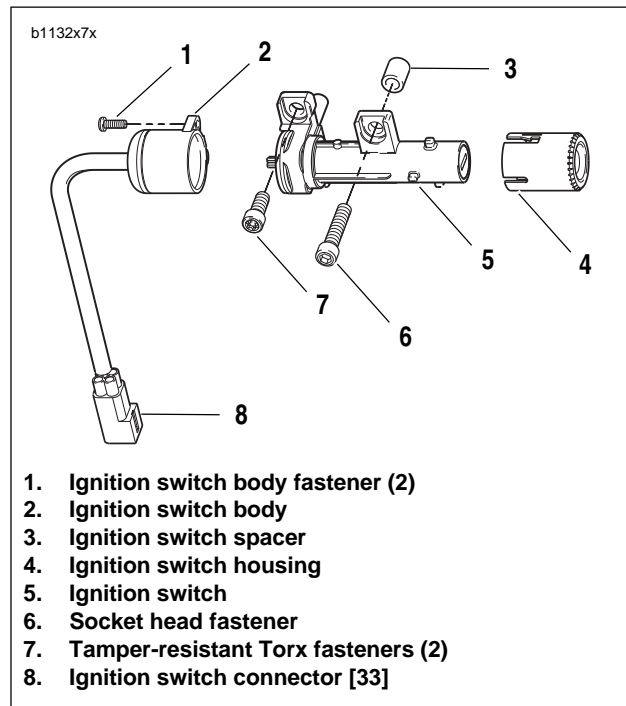

Figure 7-5. Ignition Switch Assembly
1. See Figure 7-5. Remove ignition switch housing (4) from ignition switch (5) by prying tabs on side of housing
2. Remove ignition switch body fasteners (1). Separate ignition switch body (2) from ignition switch (5).
See Figure 7-5. In next step, be sure wide slot in ignition switch housing (4) is installed over wide boss on ignition switch (5).
1. Push ignition switch housing (5) on to ignition switch (4).